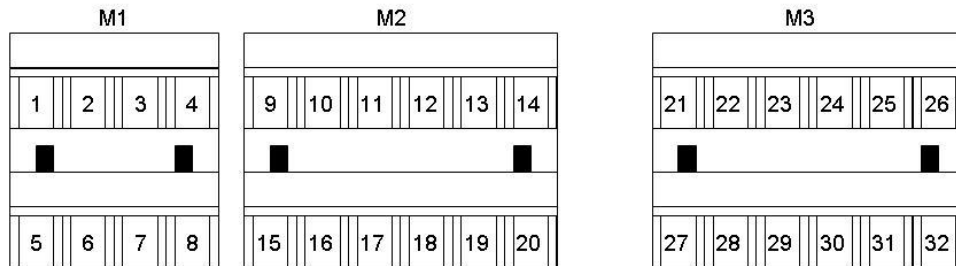

Figure 197: Input-output signal terminal boards
- Output line-driver encoders supplied from 5V external source: pin 5 in M1 "+5V_EXT" at 5V and pin 7 in M1 "0V_EXT" at 0V (see Figure 197).